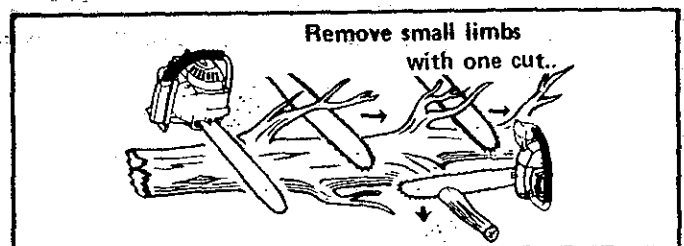

Figure 30
- c. Start at the base of the felled tree and work towards the top, cutting branches and limbs. Remove small limbs with one cut. Figure 30.